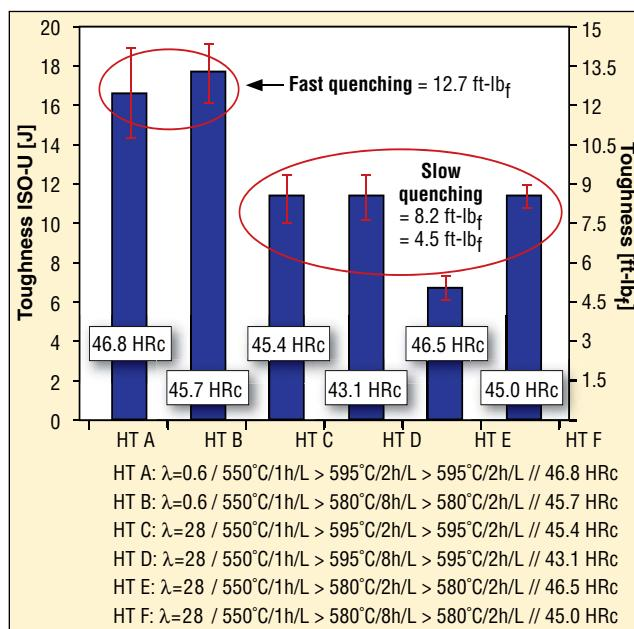

Figure 3. Toughness in Joules as a function of heat-treatment modifications.
**Microstructure** – A good heat treatment is critical to the success of tools in forging applications. When cooling rates are slow due to marginal heat-treating capabilities, a desire to minimize dimensional change after heat treatment (thereby reducing machining time) or if the section size of forging blocks increases, the microstructure of the steel contains increasing percentages of bainite. Testing of cyclically heated samples of H11 tool steel indicates that localized deformation occurs in the bainite, which is associated with early onset of heat checking. Toughness can also be significantly reduced, as shown in Figure 3.